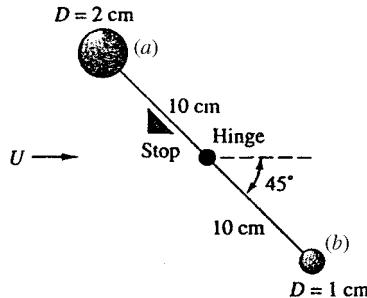

Fig. P7.99
**7.99** Two steel balls ( $\text{SG} = 7.86$ ) are connected by a thin hinged rod of negligible weight and drag, as shown in Fig. P7.99. A stop prevents counter-clockwise rotation. Estimate the sea-level air velocity  $U$  for which the rod will first begin to rotate clockwise.